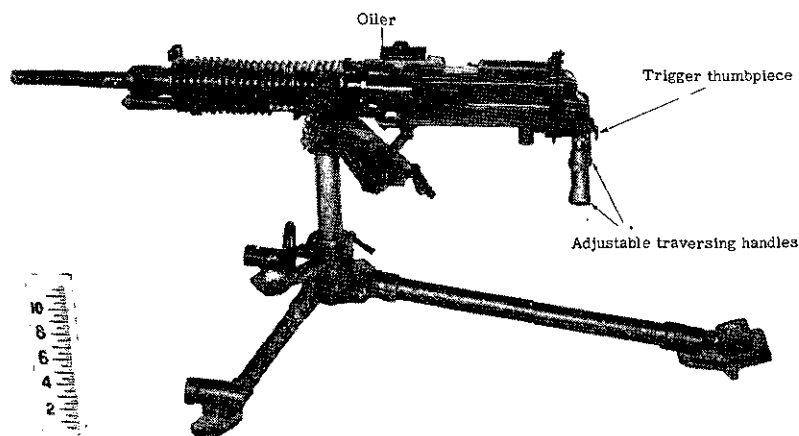

Figure 70.—Model 92 (1932) 7.7-mm heavy machine gun (left side).
- (5) The oiler (fig. 70), which is situated above and to the left of the receiver directly above the feedway.
- (6) The marking $\begin{smallmatrix} 九 \\ \text{ニ} \\ 式 \end{smallmatrix}$ which is on top of the receiver.